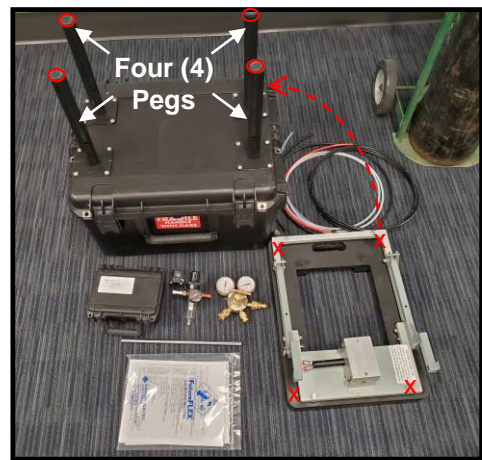

Figure 6
6.6 Manually screw-in each of the 4 pegs into the predesignated threaded holes located on the Transit Case lid. Set the Payoff Stand (Blowing Head Assembly) onto the 4 pegs located on top of the Transit Case to create a conveniently elevated work platform. **See Fig. 6.**